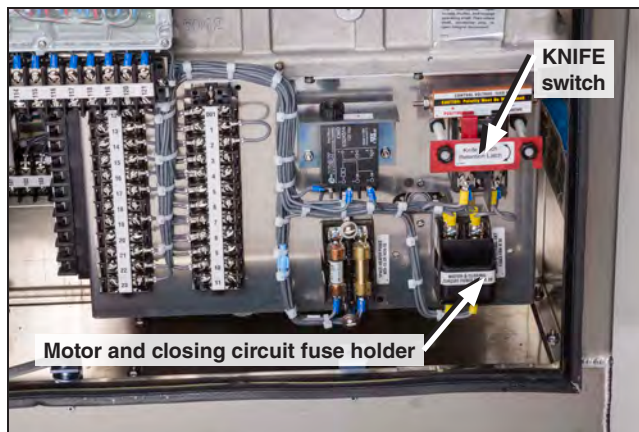

Figure 29. The motor and closing circuit fuse holders and the control source knife switch.
STEP 5. Insert the motor-and-closing circuit fuse holder. Then, close the control-source disconnect KNIFE switch. See Figure 29.